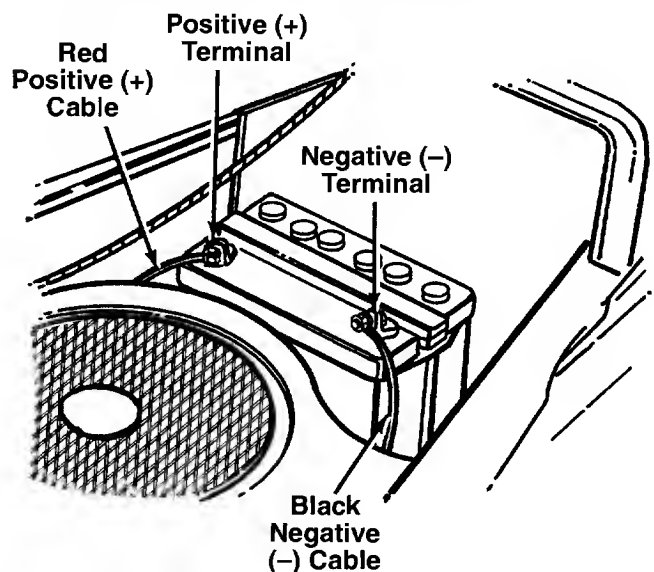

FIGURE 8.
2. Attach the positive cable (heavy red wire) to the positive battery terminal (+) with hex bolt and hex nut. See figure 8. Slide the rubber boot down over the positive terminal.